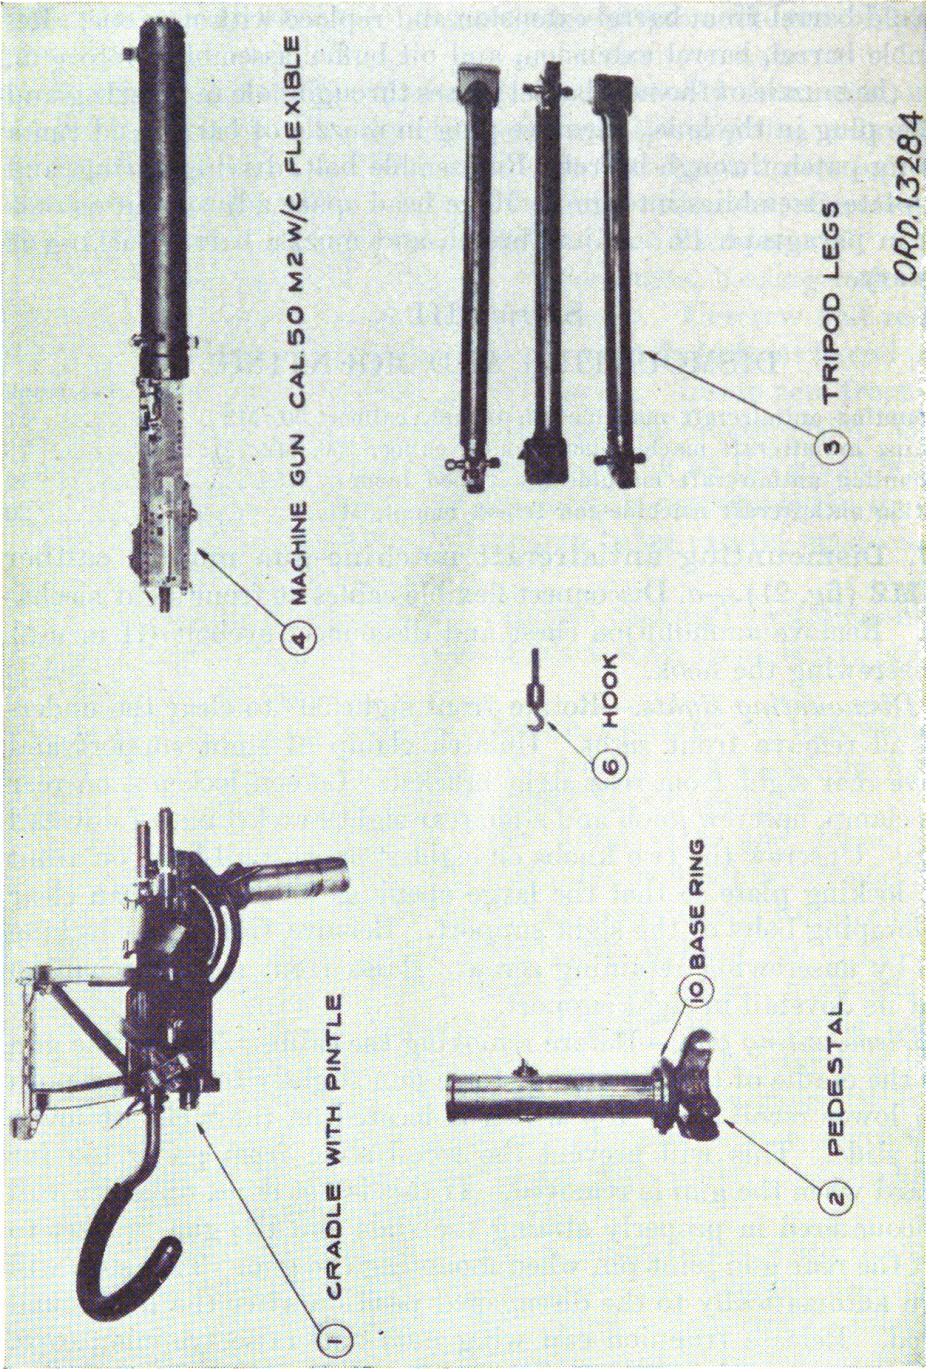

FIGURE 21.—Anti-aircraft machine-gun mount, caliber .50, M2, components and machine gun.
17. Dismounting antiaircraft machine-gun mount, caliber .50, M2 (fig. 21).—*a.* Disconnect flexible cables at front sight mechanism. Remove ammunition chest and disconnect eyebolt (if in use) by unscrewing the hook.